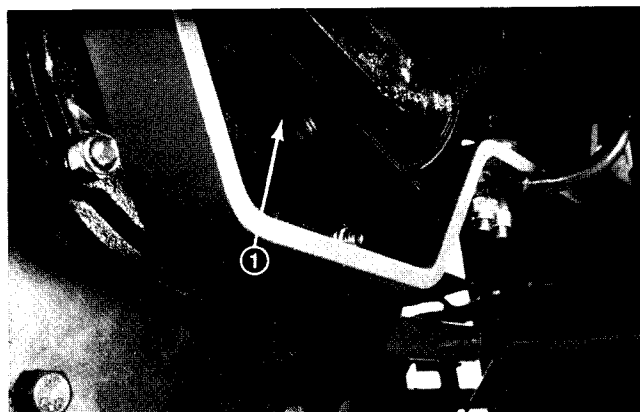

Figure 20
3. Loosen the set screws securing the pump hub (Fig. 20) to the shaft, remove the capscrews mounting the pump to the pump mount and remove the pump.